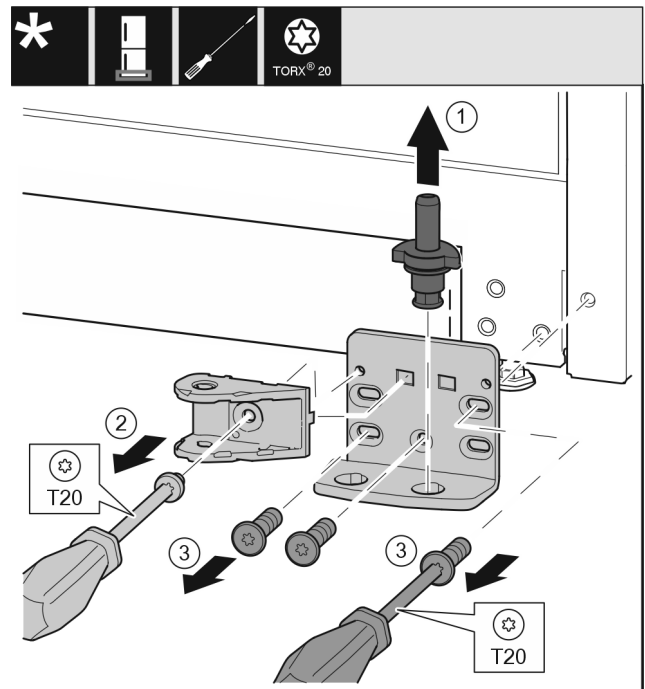

Fig. 32 *
- ▶ Lift the bearing pin completely upward and remove it. Fig. 32 (1)*
- ▶ Remove the screw with the T20 screwdriver and take off the soft close connection. Fig. 32 (2)
- ▶ Remove the screws with the T20 screwdriver and take off the bearing bracket. Fig. 32 (3)*